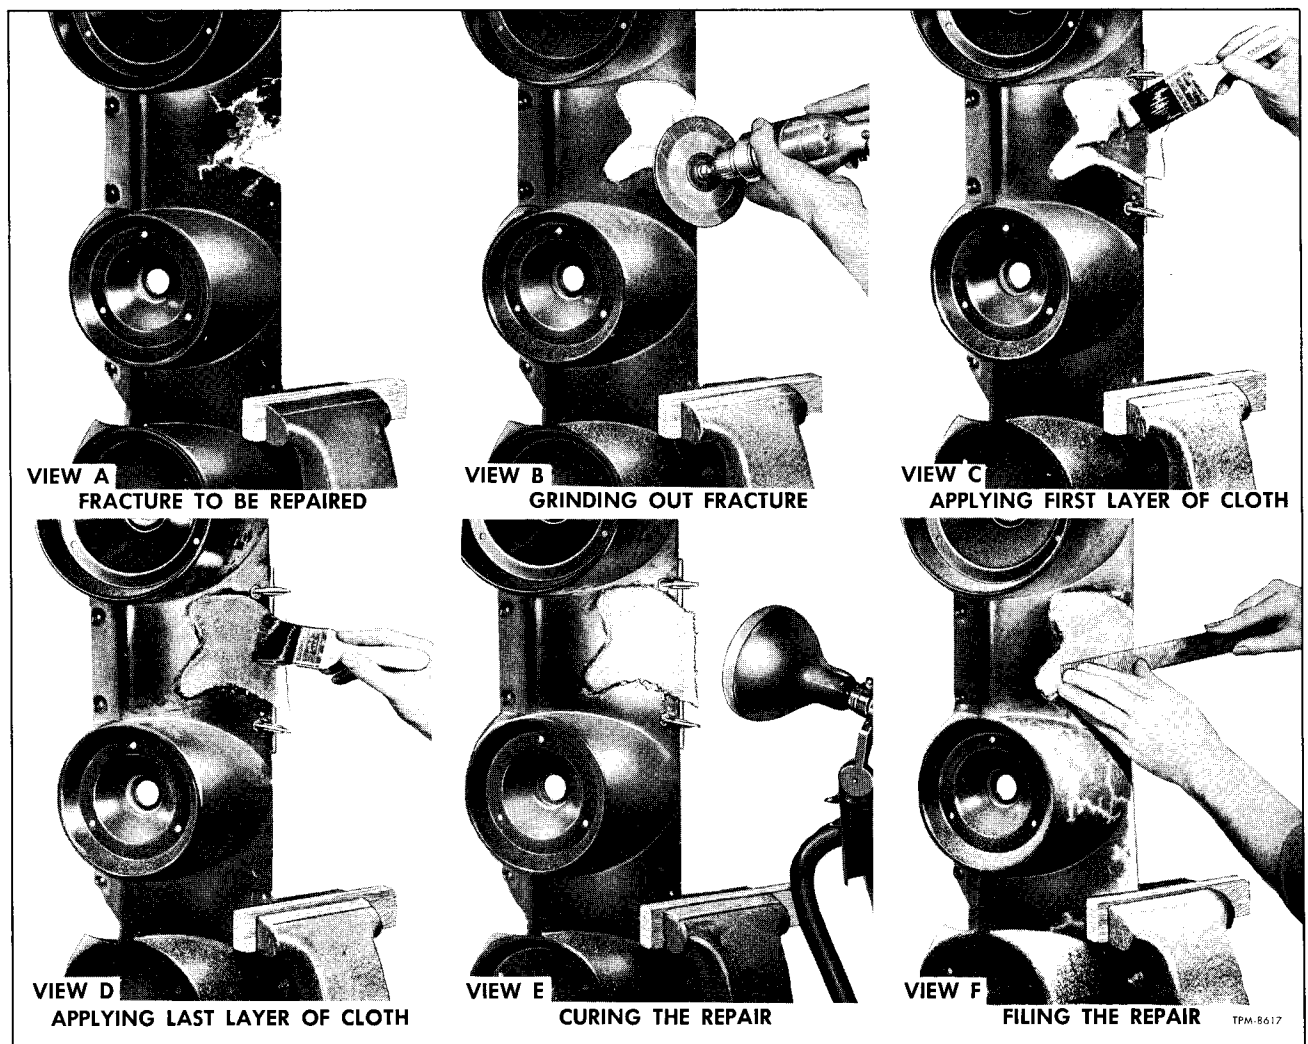

Figure 1—Fiber Glass Repair Views (Typical)
1. Examine the repair area for hidden damage. Apply pressure by hand around the area. View A, figure 1 shows a fractured stop and taillight moulding.
3. Grind or file the damaged area to form a "V" at the broken or cracked portion (View B, fig. 1). Side of "V" should have a shallow pitch for
5. If part is warped from original shape, use "C" clamps and improvised clamp plates to align surfaces (View C, fig. 1).
9. Saturate layers of fiberglass with mixture, then place laminates over damaged area (View C, and D, fig. 1). Smooth out wrinkles and make sure general contour of area is maintained. Wrinkles can be rolled out using a roller.
10. Apply heat to applied resin material. Again place lamps 12 to 15 inches from repair area (View E, fig. 1). Allow 15 to 20 minutes for repair to cure.
11. After the repair is cured, grind, file or sand to contour (View F, fig. 1). Files other than body files may be more suitable. Feather edge and finish sand.